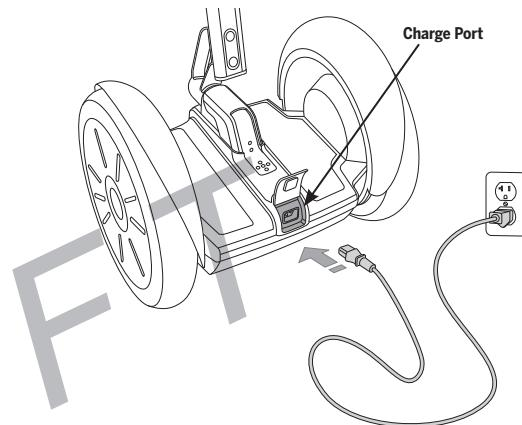

Figure 57: Plug Power Cord into Charge Port
2. Open the Charge Port on the back of your PT's Console (see **Figure 57**).
4. Plug one end of the Power Cord (provided with your PT) into a grounded AC outlet (100V–240V; 50Hz–60Hz). The Power Cord should be properly grounded (see **Figure 57**).